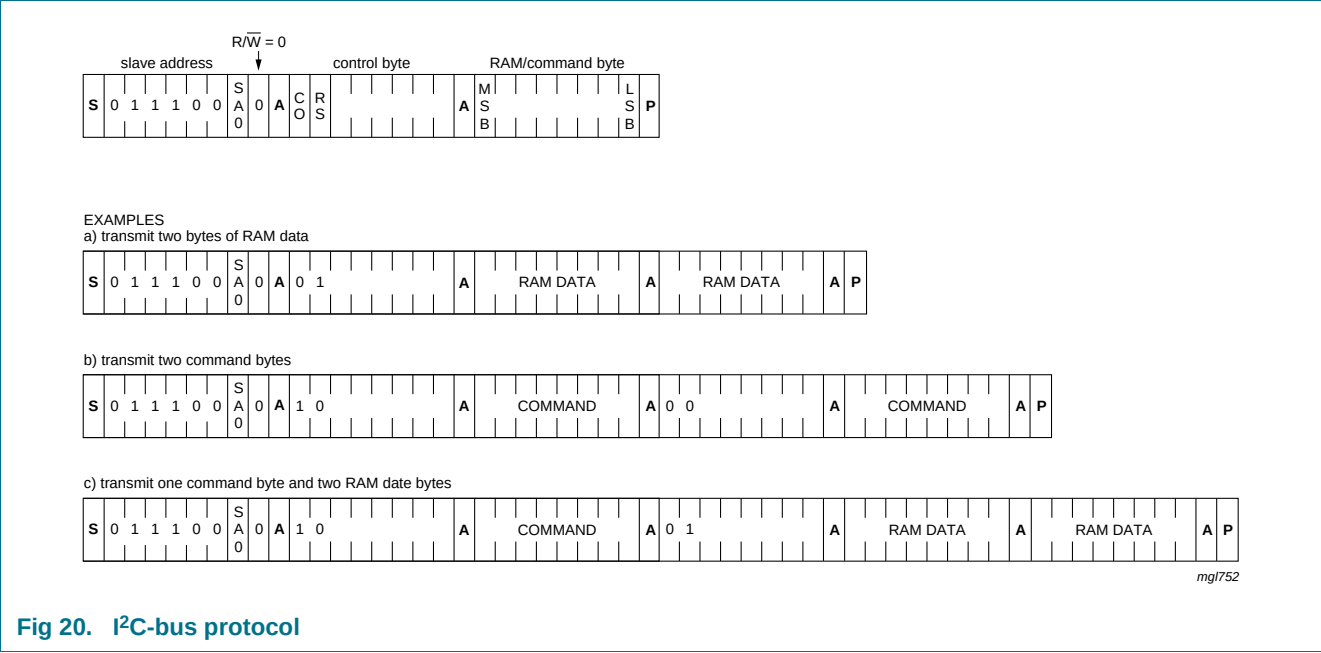

Fig 20. I²C-bus protocol
The I²C-bus protocol is shown in Figure 20. The sequence is initiated with a START condition (S) from the I²C-bus master which is followed by one of two possible PCA8533 slave addresses available. All PCA8533 whose SA0 inputs correspond to bit 0 of the slave address respond by asserting an acknowledge in parallel. This I²C-bus transfer is ignored by all PCA8533 whose SA0 inputs are set to the alternative level.